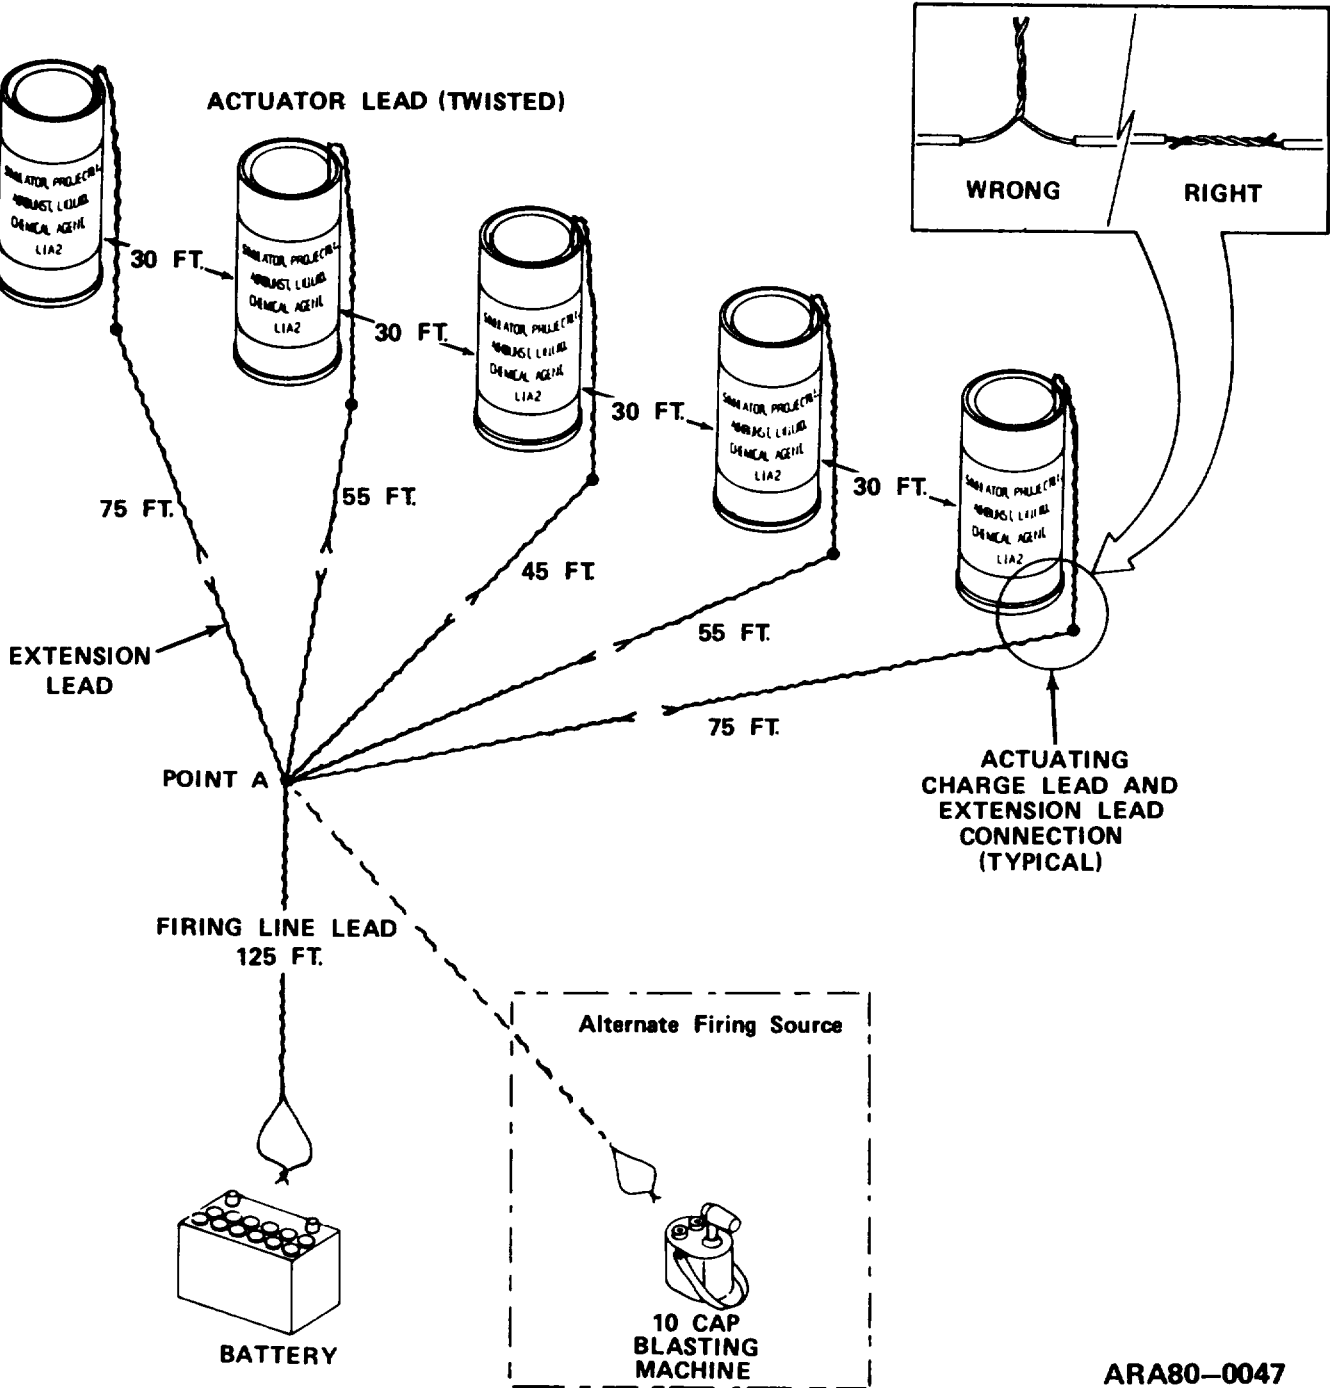

Figure 2-8. Recommended Setup for SPAL.
(1) Attach conductors of actuating charge lead to conductors of extension lead for all five projector assemblies (fig. 2-8).
(2) Make sure bare connections are separated to avoid electrical short.
3. Check and be sure extension leads and actuating charge leads are properly connected and separated from each other (fig. 2-8). Correct improper connection.
If mission is cancelled, dismantle SPAL setup (fig. 2-8).
d. Kneel and disconnect actuating charge leads (fig. 2-8) from extension leads. Twist ends of actuator leads together.